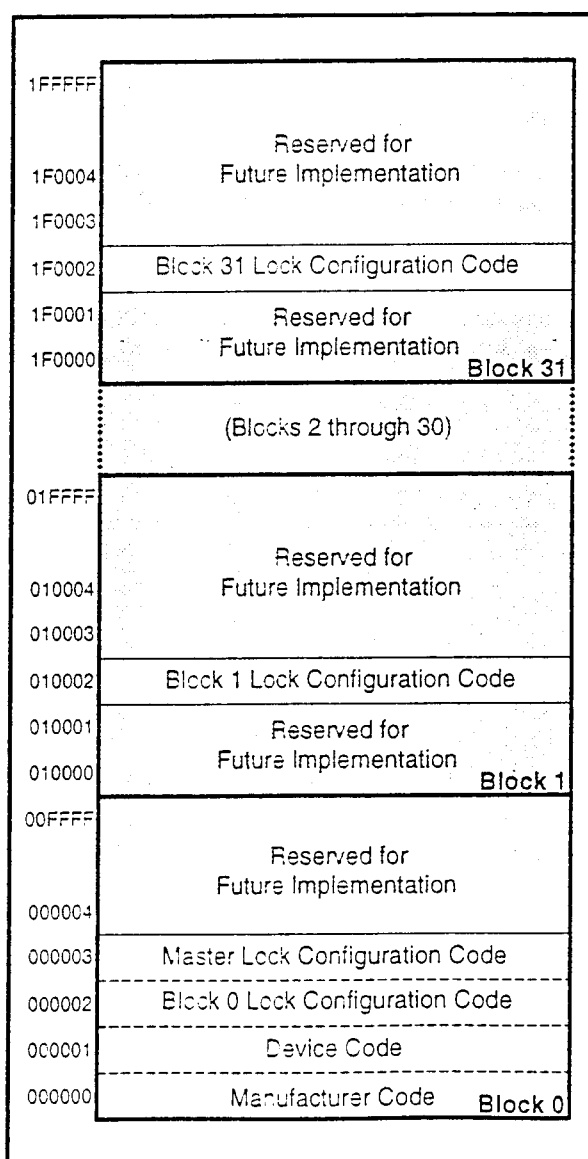

Figure 7. Device Identifier Code Memory Map
The read identifier codes operation outputs the manufacturer code, device code, block lock configuration codes for each block, and the master lock configuration code (see Figure 7). Using the manufacturer and device codes, the system CPU can automatically match the device with its proper algorithms. The block lock and master lock configuration codes identify locked and unlocked blocks and master lock-bit setting.
IA=Identifier Code Address: see Figure 7.
The identifier code operation is initiated by writing the Read Identifier Codes command. Following the command write, read cycles from addresses shown in Figure 7 retrieve the manufacturer, device, block lock configuration and master lock configuration codes (see Table 5 for identifier code values). To terminate the operation, write another valid command. Like the Read Array command, the Read Identifier Codes command functions independently of the V_{PP} voltage and RP# can be V_{IH} or V_{HH} . Following the Read Identifier Codes command, the following information can be read:
1. X selects the specific block lock configuration code to be read. See Figure 7 for the device identifier code memory map.